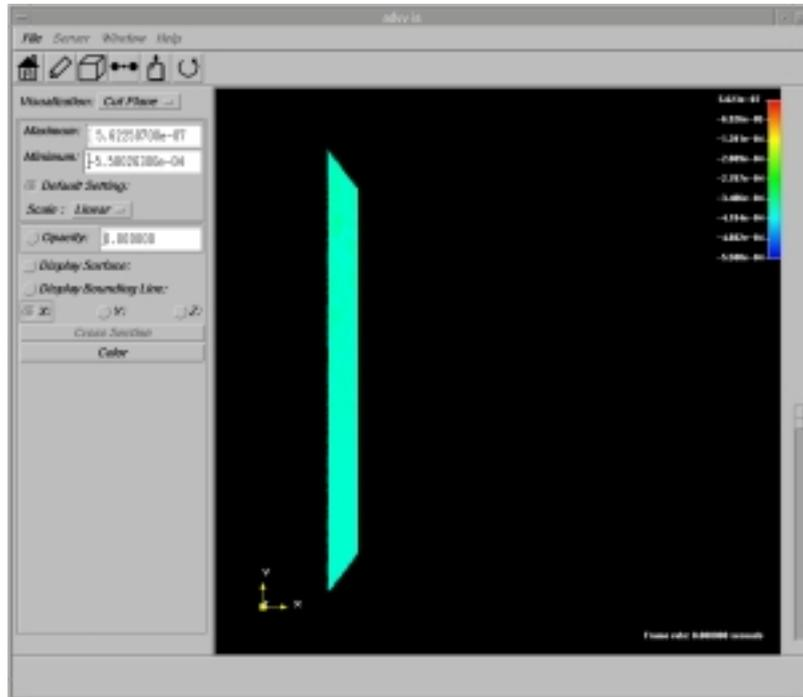
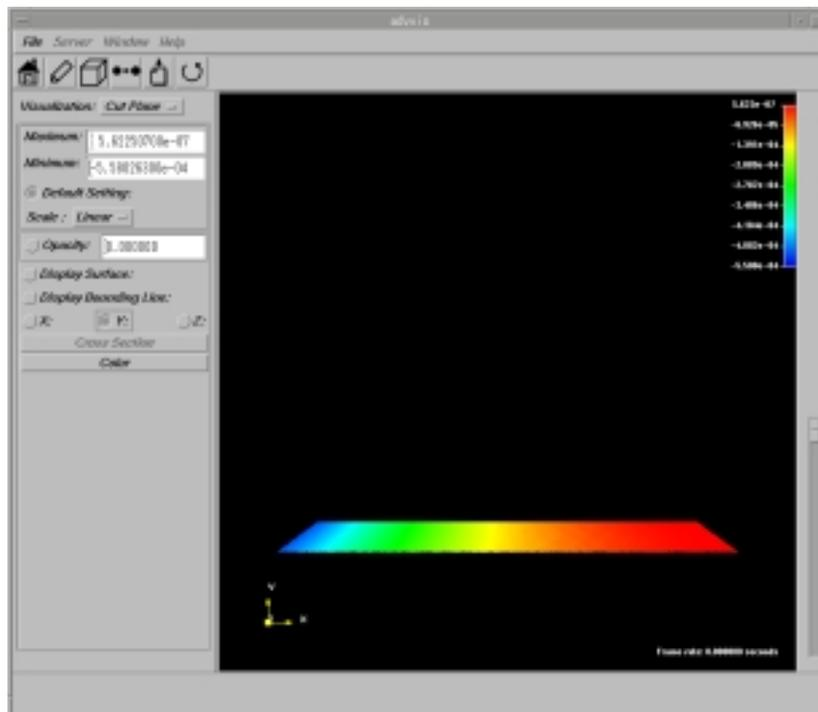
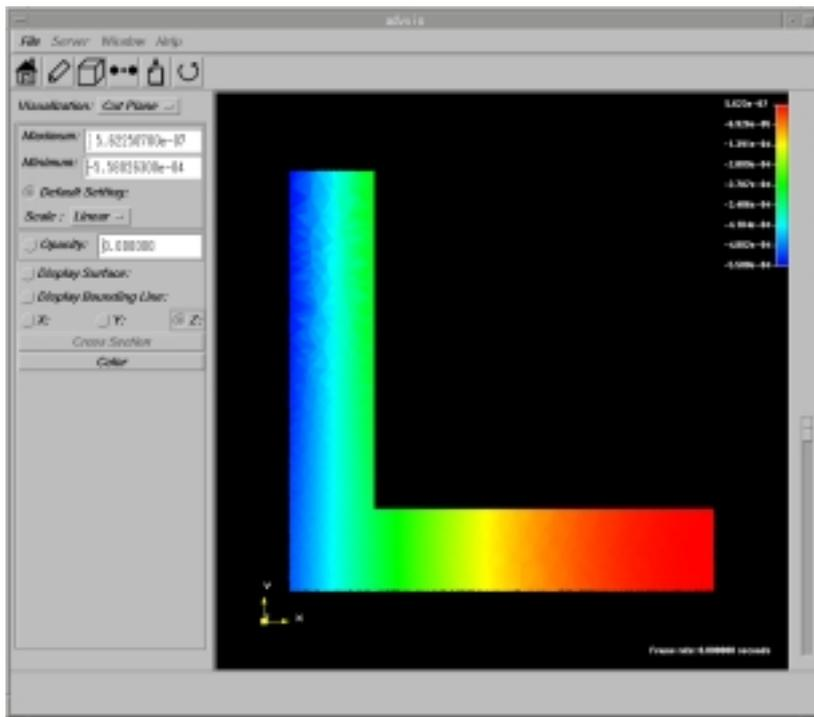

Fig. 7-28. Section Scalar Display (only X is switched on)
Fig. 7-29. Section Scalar Display (only Y is switched on)
Fig. 7-30. Section Scalar Display (only Z is switched on)
8. The section scalar distribution, which corresponds to each of X, Y, and Z can be displayed or non-displayed by switching the X, Y, Z toggle buttons at the left of the main window (on and off). For example, when only the section scalar distribution that corresponds to X-axis (be horizontal to the X axis) is displayed, only the X toggle button is turned on, and the Y and Z toggle buttons are turned off. Fig. 7-28, Fig. 7-29, and Fig. 7-30 show the example mentioned above.